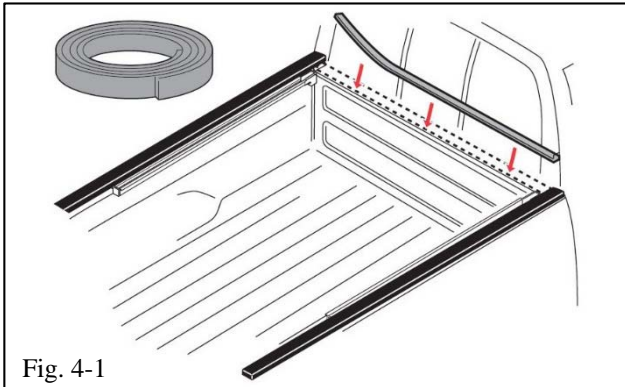

Fig. 4-1
- (b) Place the included foam seal on the front lip of the truck bed (adhesive side down) below the cab rear window from the driver side bed rail cap to the passenger side bed rail cap (Fig. 4-1). Remove the plastic backing and affix the seal to the bed.